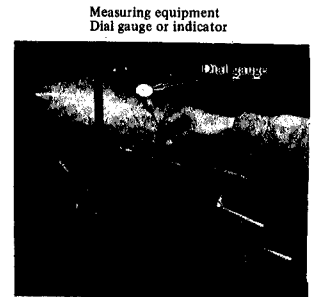

Fig. 6
(3) Clearance between connecting rod (big end) bearing and crankpin (Fig. 6)